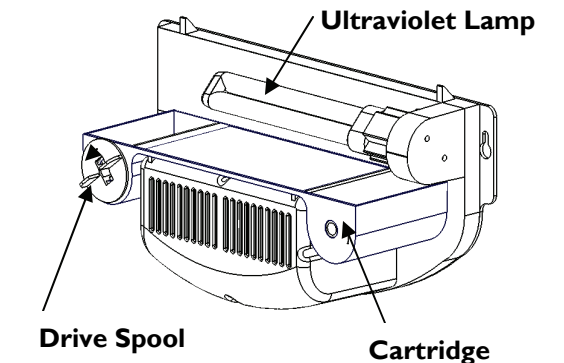

Fig. 5
2. Rotate the drive spool of the cartridge in the direction of the arrow shown on the drive spool until the tacky paper is across the cartridge. (Fig. 5)
3. Position the cartridge on the top of the motor enclosure. Push the cartridge in until it stops. (Fig. 5 & 6) **NOTE:** About 6 to 7 rotations will be required.